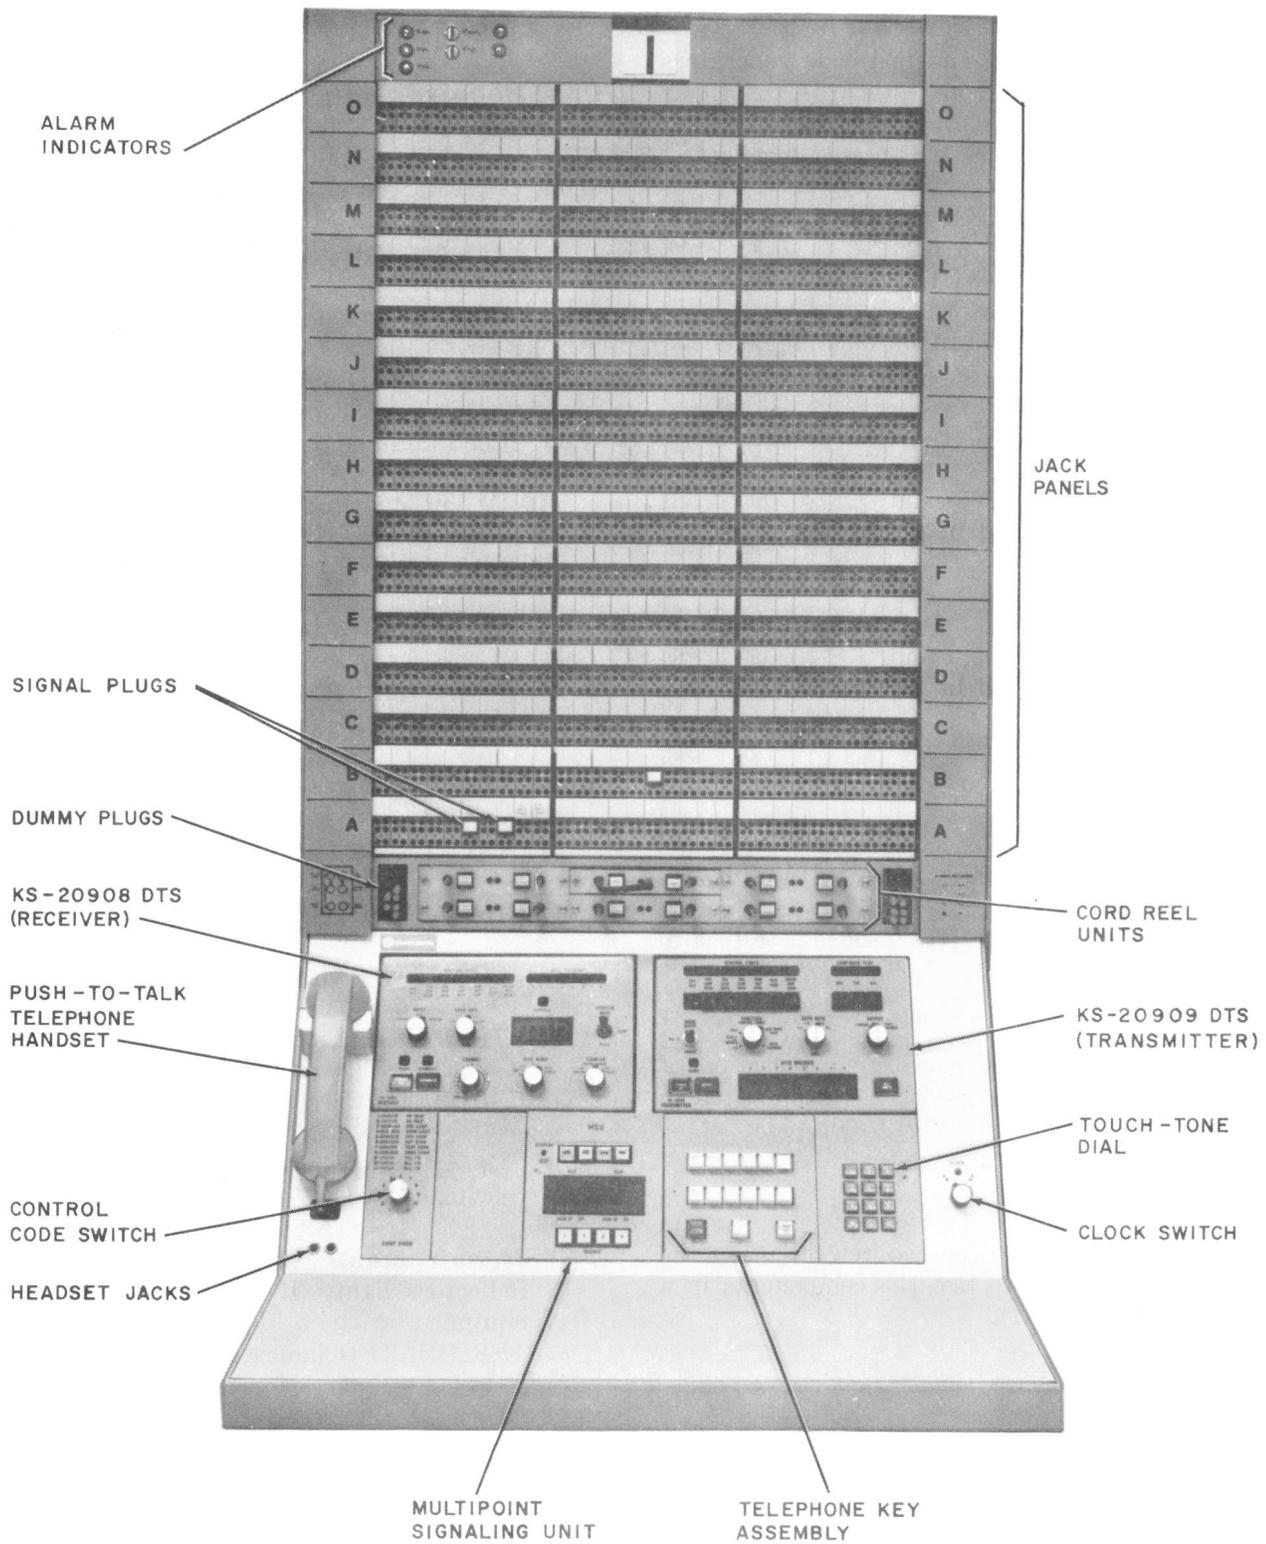

Fig. 1—Front View of 950A Testboard
**3.01** This part contains procedures for using the test equipment to test the components in a 950A testboard (Fig. 1).